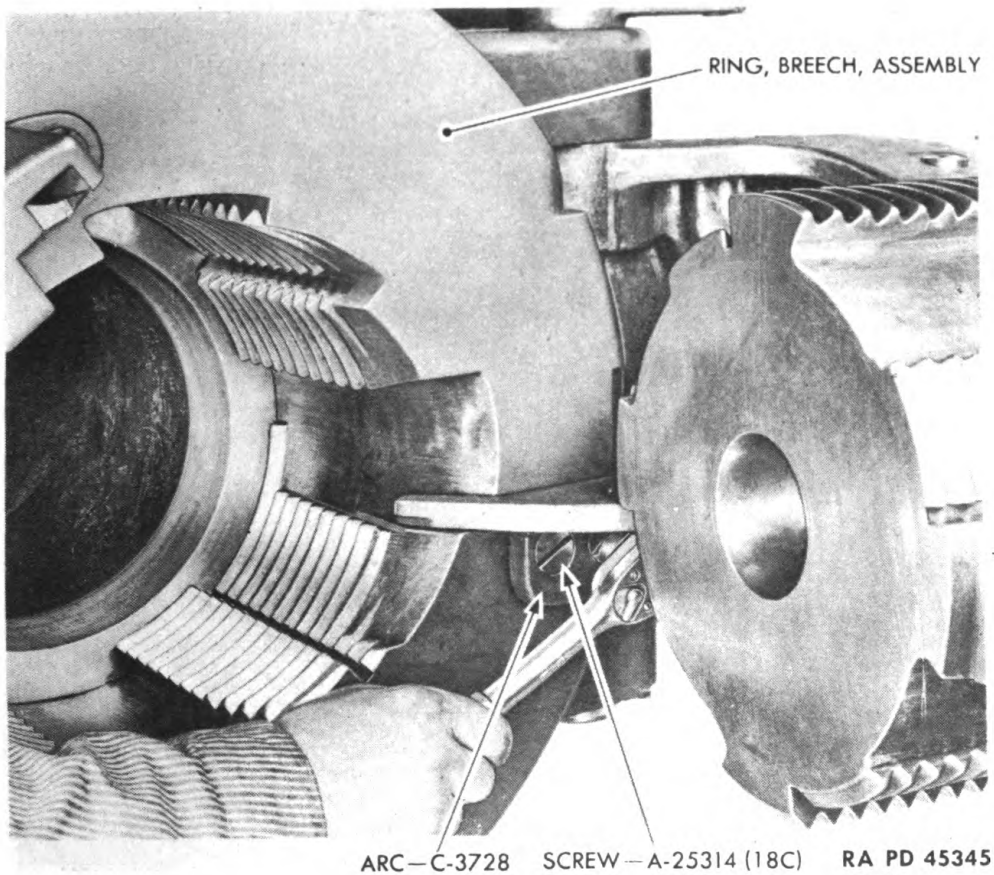

Figure 66—Removing Breechblock Control Arc
(1) Remove screws A25314 from arc C3728 and breech ring. Remove arc (fig. 66).
(2) Slide a wood pole, 1 $\frac{3}{4}$ -inch diameter x 4 feet long, through breechblock D36236. With one man holding the pole and another working the operating lever up and down, and at the same time pushing the breechblock back on the pole, remove the breechblock. Carefully lift breechblock (on pole) away from breechblock carrier D36238.